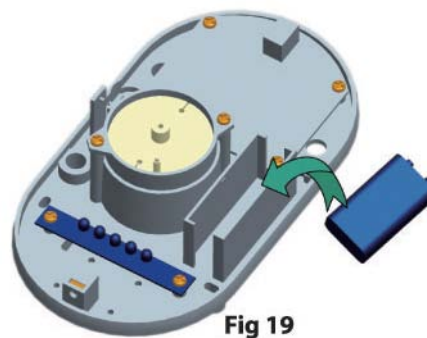

Fig 19
10.3. In case of power failure, battery back-up will be used inside; for battery installation or removal, see Fig. 19. (the battery is mandatory)